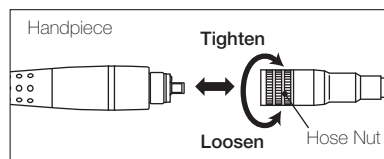

Fig. 2
- 1) Insert the handpiece correctly into the hose connector and tighten the hose nut. (Fig. 2)
- 1) Loosen the Hose Nut and remove from the Hose. (Fig. 2)